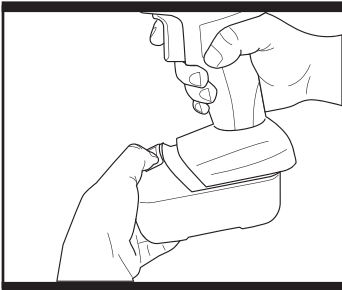

Fig. 2
2. TO REMOVE OR INSTALL BATTERY PACK (Fig. 2 & 3)